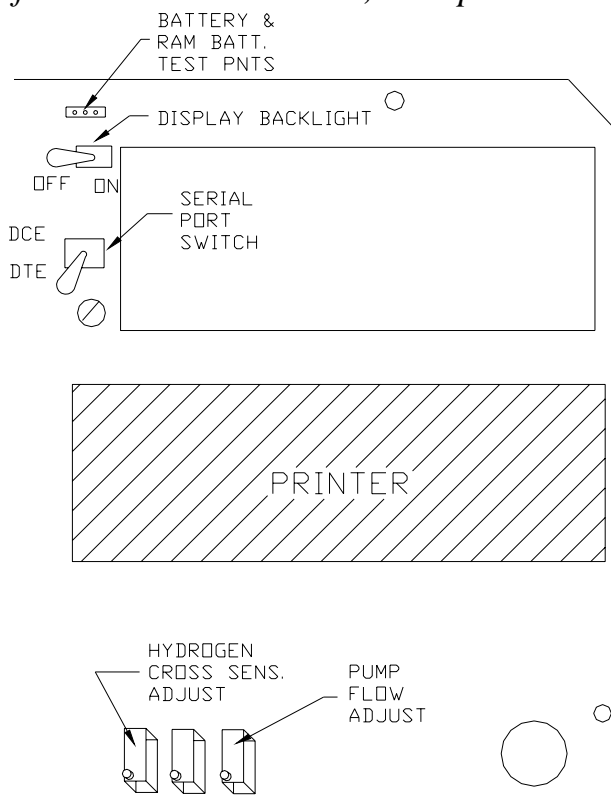

FIGURE 9
- iii. The pump flow adjusting potentiometer is the third one on the left. See fig. 9.
separate pumps driven by one high quality DC motor. Both pump sections are mounted on one assembly. One pump is used to draw the gas sample into the instrument and the other pump is used to supply an equal amount of air to the combustibles sensor. The nominal flow rate for either section is set at 550 cc/min. By a potentiometer located on the PC board. See figure 9.
also the interference rejection filter media. It reacts with oxygen present inside the cell to form carbon dioxide. The reaction produces an electric current proportional to the concentration of the gas. Sensor life is estimated at 2 years. A calibration adjustment removes all cross sensitivity to hydrogen gas. See figure 9. This calibration is normally carried out at the factory.